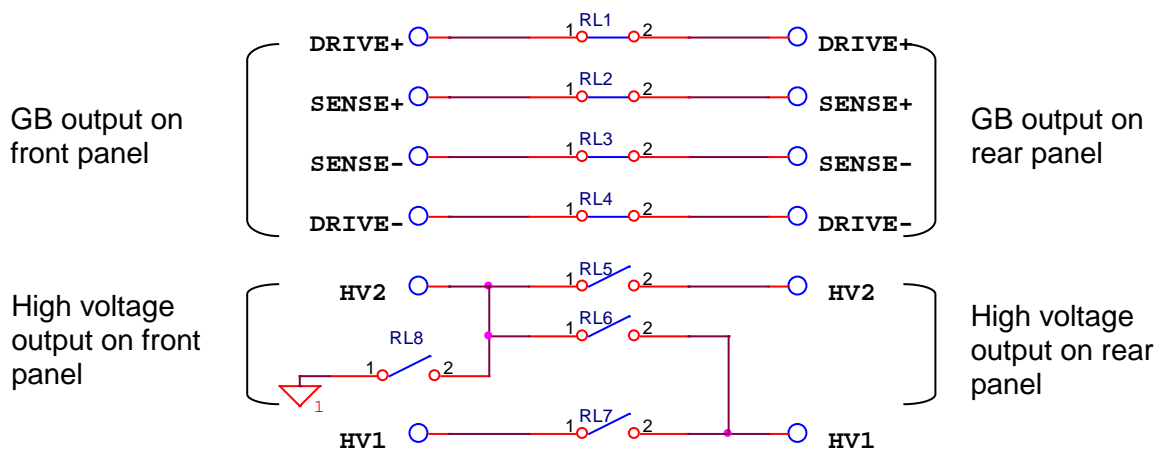

Figure 4-8
- i. When GFI setting is FLOAT under PRESET option, connection diagram of front panel and rear panel terminal is as *Figure 4-8* shown: